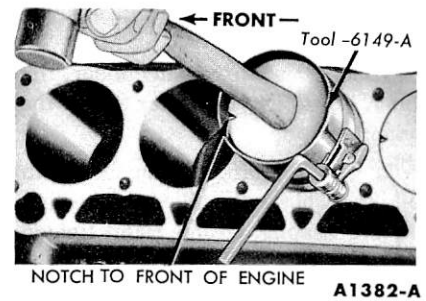

FIG. 28—Piston Installation
4. Make sure the ring gaps are properly spaced around the circumference of the piston. Install a piston ring compressor on the piston and push the piston in with a hammer handle until it is slightly below the top of the cylinder (Fig. 28). Be sure to guide the connecting rods to avoid damaging the crankshaft journals. **Install the piston with the notch in the piston head toward the front of the engine.**